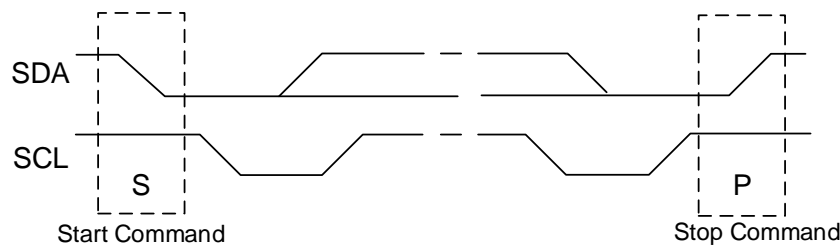

Figure 10: Start and Stop Commands
The stop (P) command is defined as the SDA signal transitioning from low to high while the SCL is high (see Figure 10). The master then generates the SCL clocks and transmits the device address and the read/write (R/W) direction bit on the SDA line.